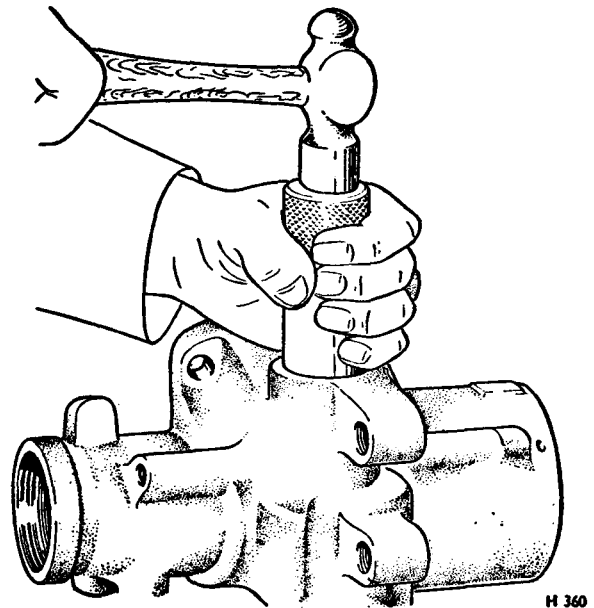

FIG. N29 INSTALLING ROCKER SHAFT SEAL
4. Fit the seal into the rocking shaft bore (see Fig. N29) using seal fitting tool (RH 7779). Do not drive the seal more than $\frac{1}{8}$ in. (3,18 mm.) above the lip of the rocking shaft bore.
3. Lubricate the rocking shaft bore and single lip rocking shaft seal with the approved power steering fluid and insert the seal into the bore using the rocking shaft seal insertion tool (RH 7779) (see Fig. N29). Do not drive the seal more than $\frac{1}{8}$ in. (3,18 mm.) below the face of the housing.
5. Lubricate the double lip seal with the approved power steering fluid and insert it into the bore (see Fig. N29). Using rocking shaft seal insertion tool (RH 7779) drive the seal into the bore until the top edge of the seal is flush with the bottom edge of the circlip groove.